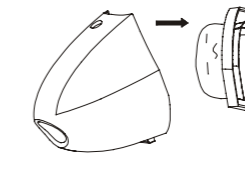

fig.2
- Pull out the Dust Cup Filter (6), (fig.2).
- Empty the dust from the Dust Cup Filter (6).
- Rinse the Dust Cup Filter (6) in cold water, and then wait until it dries up before replacing it into the Dust Cup (container) (5).
- Place the Dust Cup Filter (6) carefully into the Dust Cup (container) (5).
- Attach the Dust Cup (container) (5) to the Hand Vacuum.